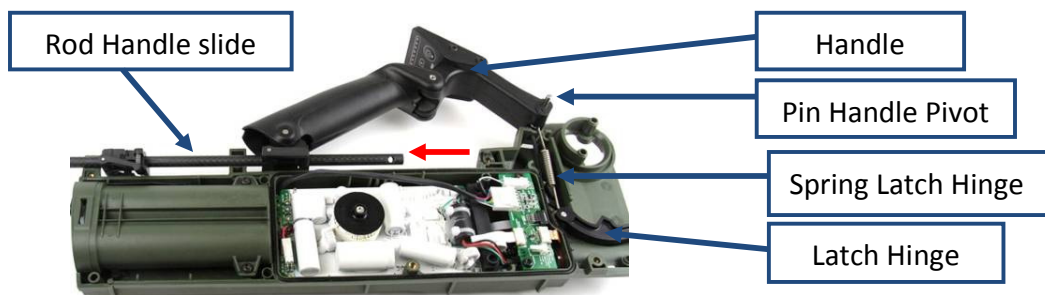

Figure 81: Handle
- Remove the rod handle slide from the handle. Figure 81.